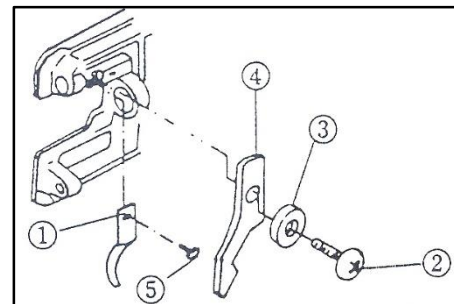

Figure 7.19
A. To replace the fixed knife (1) release the spool case positioning finger fixing screw (2) as shown in Fig. 7.19 and remove washer (3) and finger (4). Remove the fixed knife screw (5) and then remove the fixed knife.